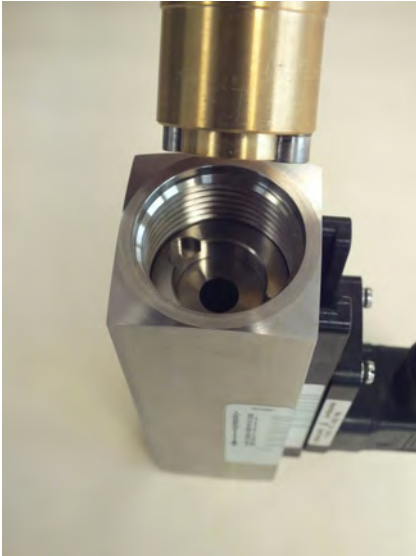

Fig. 45: Insert threaded ring insertion tool (inlet)
- 10.** Insert the special tool (threaded ring insertion tool) for DKME-1 type devices into the device inlet (Fig. 45) and turn until it rest in the keyway of the threaded ring